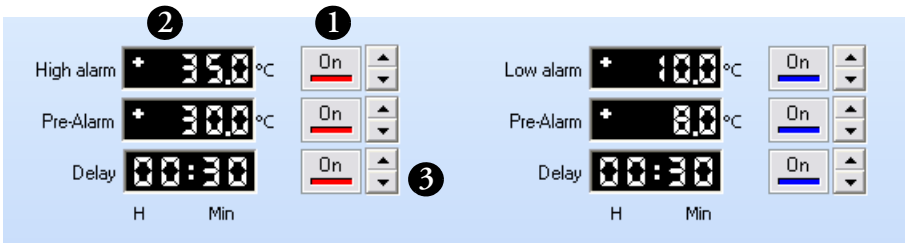

Figure 72. Enabling limits for a temperature sensor
1. Click on/off to enable/disable high and low light alarms (#1 in Figure 72), and then set the limits.